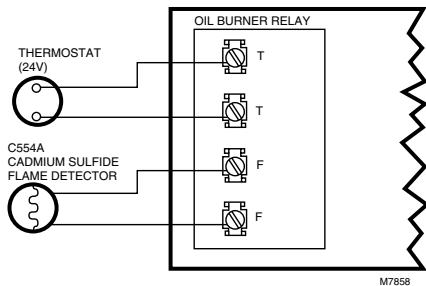

**Fig. 5. Use oil line adapter bracket to mount C554A on oil line.**
- 6 Mount the oil line adapter bracket on the oil line using the screw and nut provided (Fig. 5).